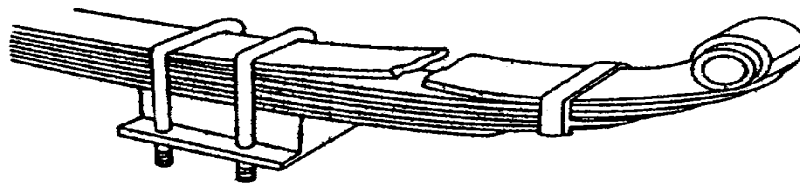

Figure 2-3
- Missing or broken leaves in any leaf spring. If one-fourth or more are missing, it will put the vehicle “out of service” but any defect could be dangerous (Figure 2-3).